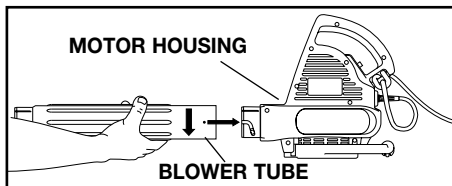

Fig. 1
1. With the unit off and unplugged, install the blower tube onto the motor housing. Turn the tube clockwise until it locks (Figs. 1, 2 and 3).